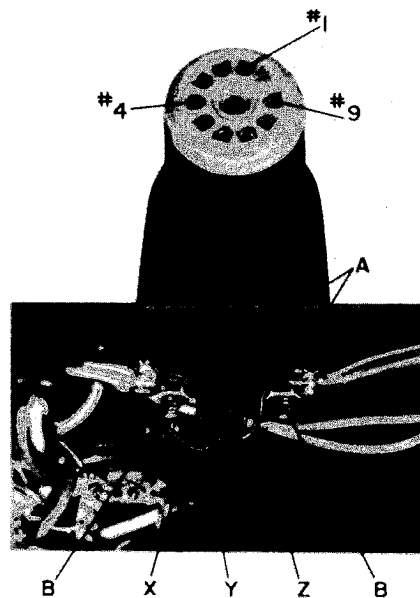

Figure 4-4. Internal view of Type 1531 Strobotac. Lead connection terminals and mounting of swivel-support assembly.
See Figure 4-4. To replace the swivel-support assembly:
d. Position the new swivel-support assembly so that the strobotron tube socket and leads (X, Y, Z) can be mounted as shown in Figure 4-4.
e. Insert leads (X, Y, Z) through the slot between screws (B), and hold the swivel-support assembly in position between the two pivot blocks. Slide the pivot blocks together and tighten nuts (A). The pivot action of the swivel-support assembly may need adjustment; if so, loosen one nut (A), adjust the corresponding pivot block, and tighten the nut again.
f. Solder leads (X, Y, Z) to terminals (see Figure 4-4).